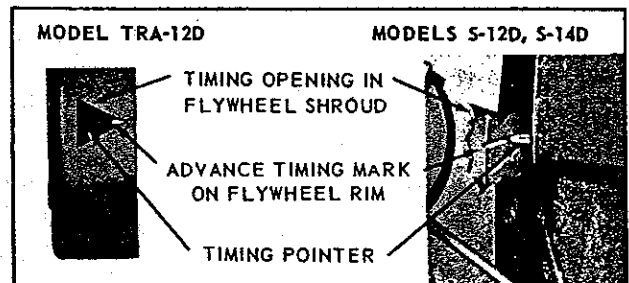

Fig. 3 Ignition Timing
**Model TRA-12D:** The flywheel is marked with a groove to indicate the 20° running spark advance. With the engine operating at 2500 R.P.M. or over, the *timing mark* (groove) on rim of flywheel will appear *in line with timing pointer, left view, Fig. 3.*
**Models S-12D and S-14D:** The timing groove on the rim of flywheel, Fig. 3 (right), is marked for the 18° magneto and battery ignition advance, and timing can be checked to this mark for solid state ignition while the engine is running at 1000 R.P.M. When checking the 20° *running spark advance*, at 2500 R.P.M. or over, the *timing mark* (groove) will appear about 1/8 inch above the *timing pointer.*